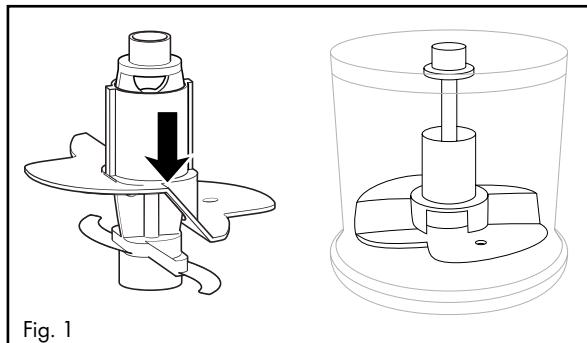

Fig. 1
- 1) Place the bowl ⑥ on the stand ⑨.
- 2) Push the whisk attachment ⑩ onto the blade holder ⑤:
- For 100 ml of cream, place it onto the blade holder ⑤ so that the whisk attachment ⑩ is in contact with both blades ⑦ and clicks into place (fig. 1):